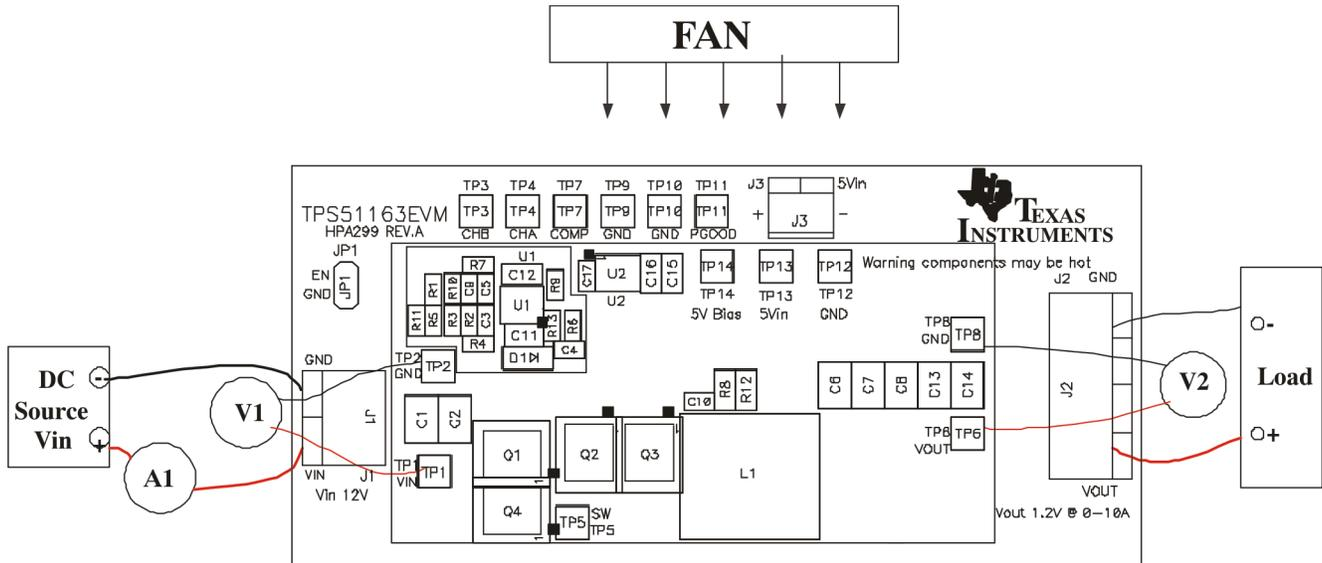

Figure 7-2. TPS51163EVM Recommended Test Setup
The input voltage source  $V_{IN}$  should be a variable DC source between 0 V and 14 V, capable of supplying 10 A. Connect  $V_{IN}$  to J1 as shown in Figure 7-2.
A voltmeter with a range between 0 V and 14 V should be used to measure  $V_{IN}$  at TP1 ( $V_{IN}$ ) and TP2 (GND). A voltmeter with a range between 0 V and 5 V for  $V_{OUT}$  measurement at TP6 ( $V_{OUT}$ ) and TP8 (GND). A current meter with a range between 0 A and 10 A (A1) as shown in Figure 7-2 is used for input current measurements.
Figure 7-2 is the recommended test setup to evaluate the TPS51163EVM. Working at an ESD workstation, make sure that any wrist straps, bootstraps, or mats are connected referencing the user to earth ground before power is applied to the EVM.
1. Prior to connecting the DC input source  $V_{IN}$ , it is advisable to limit the source current from  $V_{IN}$  to 10 A maximum. Make sure  $V_{IN}$  is initially set to 0 V and connected as shown in Figure 7-2.
Place a fan as shown in Figure 7-2 and turn it on, making sure air is flowing across the EVM.
1. Set up the EVM as described in Section 8.1 and Figure 7-2.